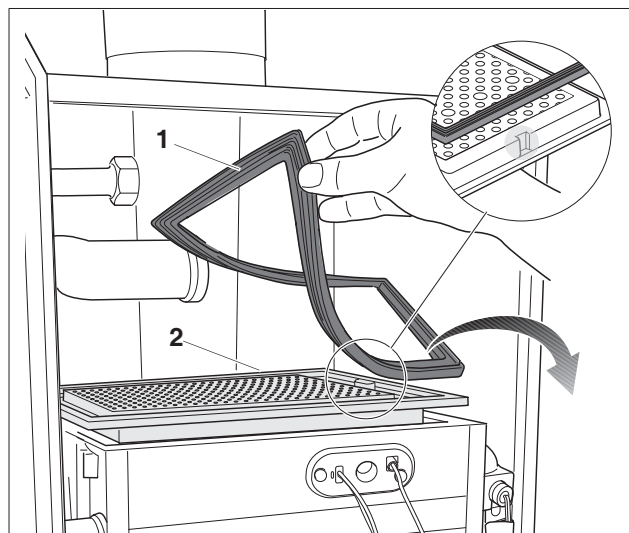

fig. 126 Removing the burner plate and the burner seal
- Remove the burner seal (fig. 126, **item 1**) and replace it if necessary.
- Remove the burner plate (fig. 126, **item 2**) and clean it on all sides using compressed air or a soft brush.
When re-installing the burner plate make sure that the notch is on the right-hand side (fig. 126, **see detailed picture**).